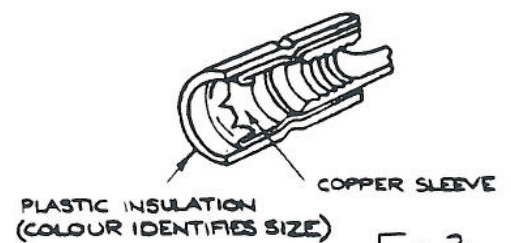

FIG 3.
- 2.2 All the crimp connectors are constructed as shown in Fig.3 and must only be used in conjunction with stranded cables.